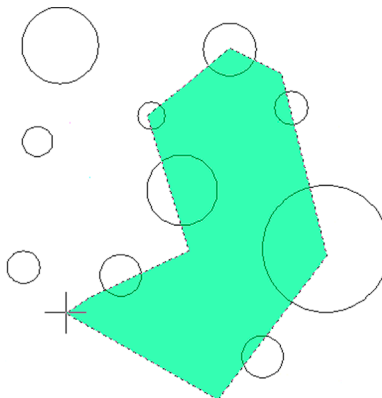

FIGURE 15.45 Crossing polygon.
Step 1. Draw another set of circles, as seen in Fig. 15.45, or just undo your previous steps.
As you can see, the Crossing polygon (Fig. 15.45) works the same exact way as the Window polygon, except anything it touches gets selected, much like how the regular Crossing operates.